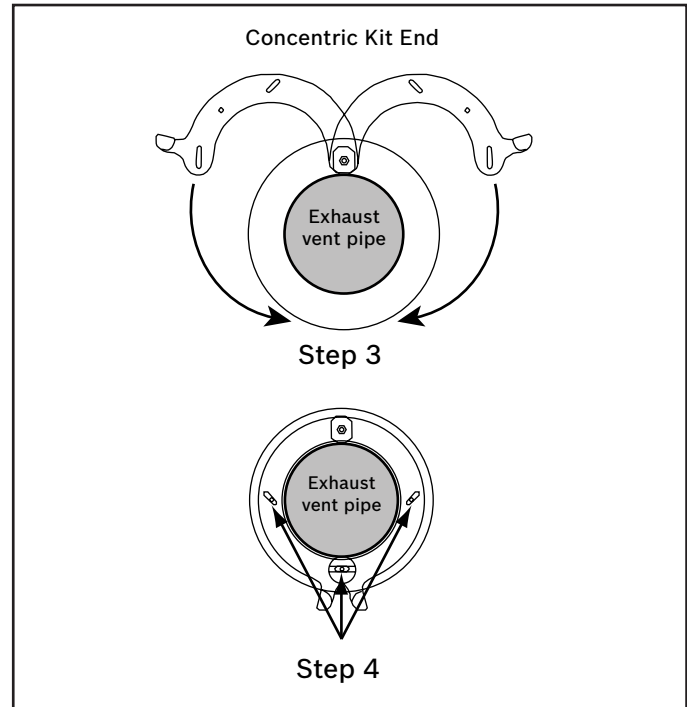

Fig. 4 Securing vent piping with clamps
8. Insert vent piping through the concentric vent kit. Close end clamps around vent pipe (Fig. 4, step 3). Secure clamps by inserting screws where shown (Fig. 4, step 4).